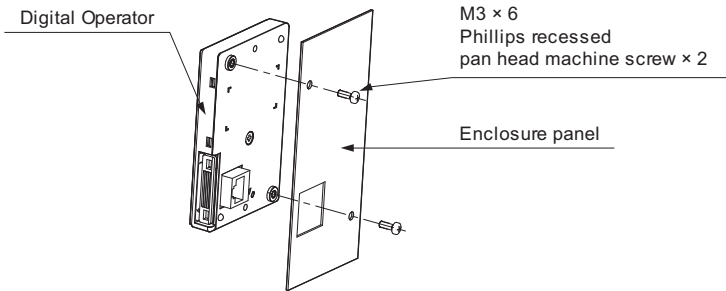

Figure 2.9 External/Face-Mount Installation
- 2. Position the digital operator so the display faces outwards, and mount it to the enclosure panel as shown in Figure 2.9.